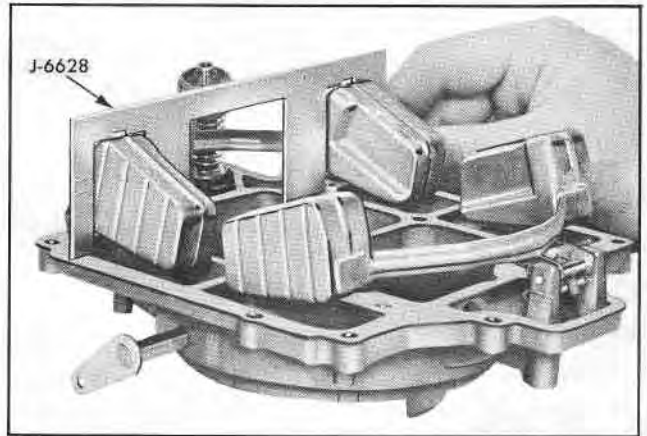
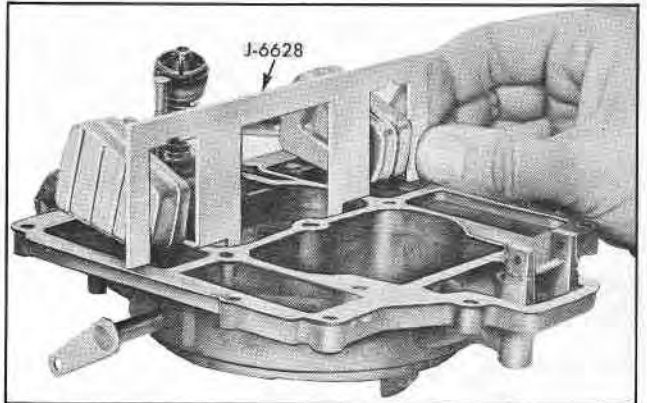

Fig. 6 Checking Float Level
Fig. 7 Checking Float Toe Clearance
- (1) With air horn gasket in place and air horn inverted, position float level gauge J-6628 over floats as shown in Fig. 6 so that gauge is located against the curvature in base of carburetor air horn.
- (2) Bend float arms vertically at center so floats just contact gauge. The vertical height is $1\text{-}3/8'' + 1/32''$.
- (3) If necessary bend float arms horizontally until each float pontoon is centered between gauge legs.
- (4) Repeat same adjustment on opposite float assembly.
- (5) With air horn inverted, lower edge of toe of float should be flush to $+1/16''$ from gasket surface. With gauge in position shown in Fig. 7, the two scribe marks on the gauge show required height of float toe necessary to ensure this clearance. If adjustment is necessary, hold float